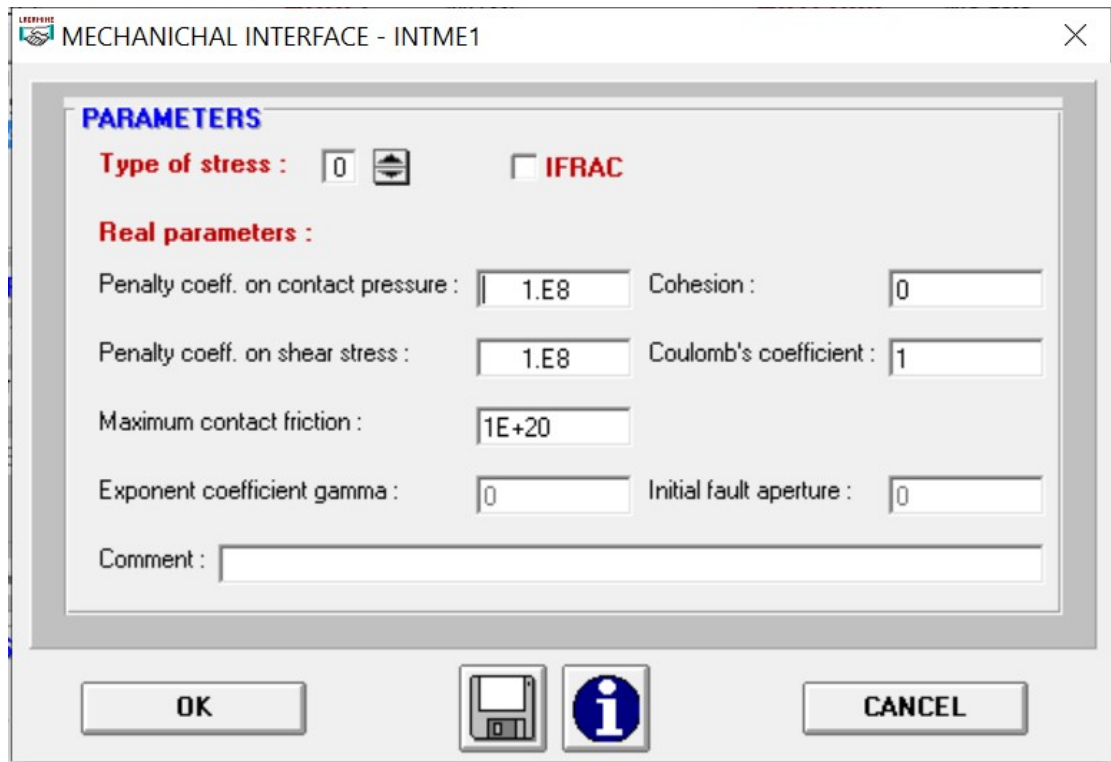

Figure 9.6 Parameters used for the interface element.
2. Click **New Law**, now the Law Number is 2 which is for the interface element boundary. Select **Interface** → **INTME** → **Parameter**, set parameters as shown in Fig. 9.6, then click OK.